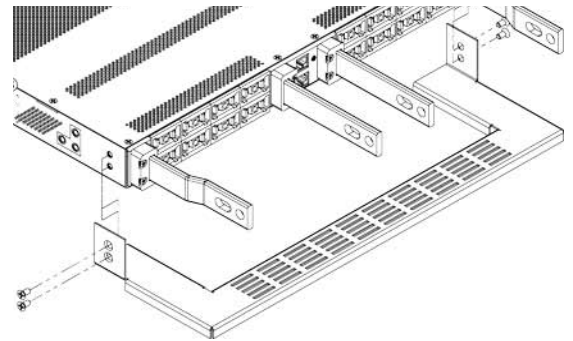

Figure 2. Cable Lacing Bar
**Step 1.** Attach the lacing bar to the rear of the panel using the included #10-32 hardware as shown in Figure 2.